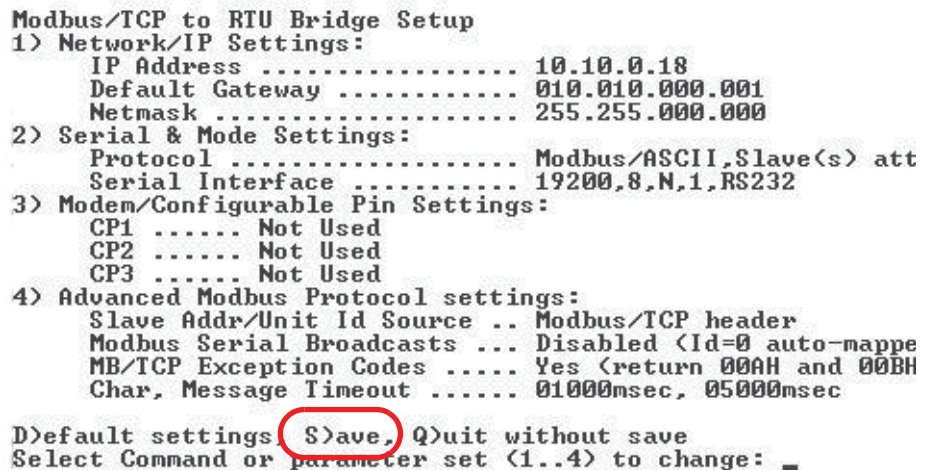

Figure 4-23 Saving the Settings
16. Type **S** to Save and restart and press **Enter** to save the changes. See Figure 4-23.